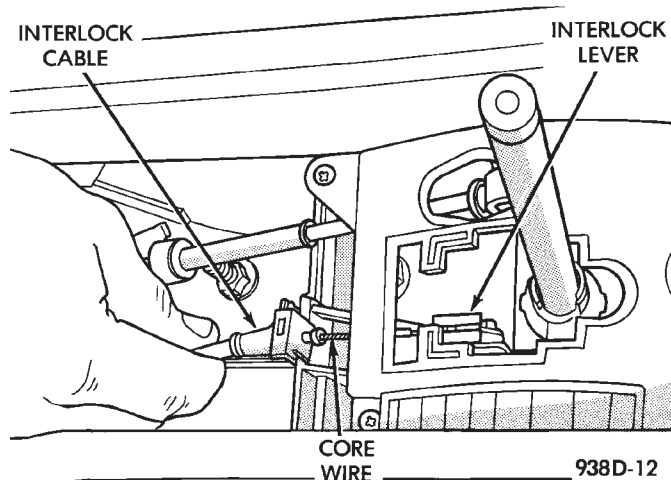

Fig. 35 Interlock Cable at Floor Shifter
- (1) Remove shifter handle.
- (2) Remove the bezel from the shifter console.
- (3) Remove the drivers side under panel silencer.
- (4) Remove the tilt lever attaching screw. Remove lever.
- (5) Remove upper and lower covers from the steering column.
- (6) Loosen the nut on the interlock adjustment lever in the floor shifter.
- (7) Move ignition key to the Run position.
- (8) Remove the interlock cable from the shifter housing (Fig. 35). Slide the cable out of the groove in the interlock lever.